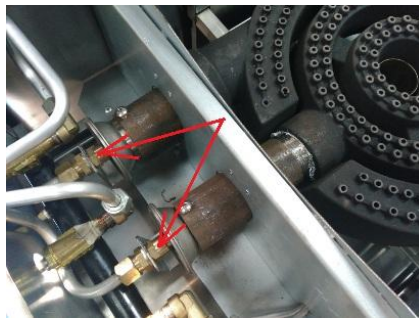

Fig. 8
2. As **Fig. 8** show, screw out the Nat. gas orifice[#32(ϕ 3.0mm)] counter-clockwise, then screw in the LP gas orifice[#43(ϕ 2.3mm)] clockwise.